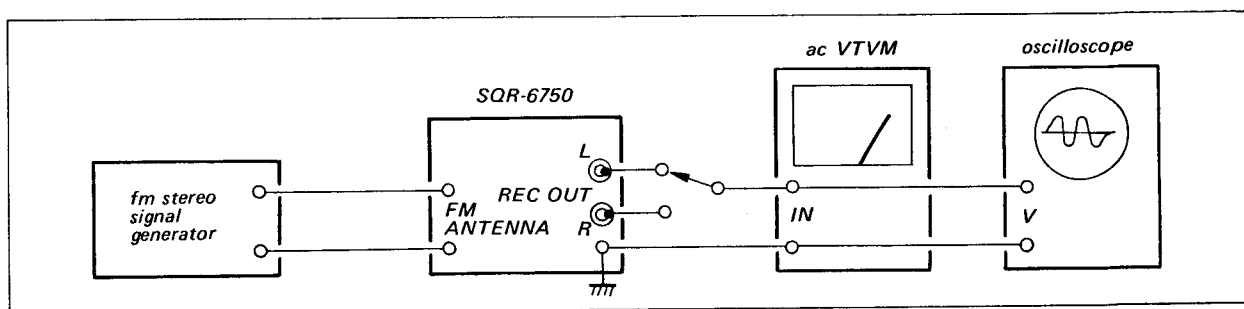

Fig. 3-6. Fm stereo separation adjustment setup
1. Connect the equipment as shown in Fig. 3-6, and set the fm stereo signal generator controls as follows: